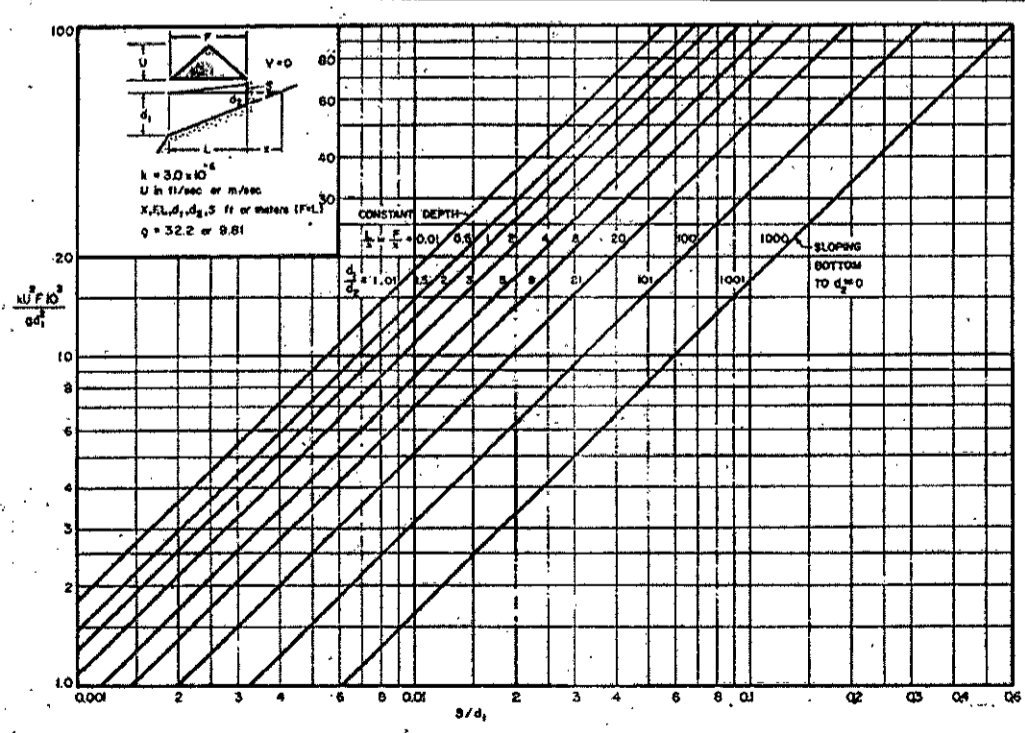
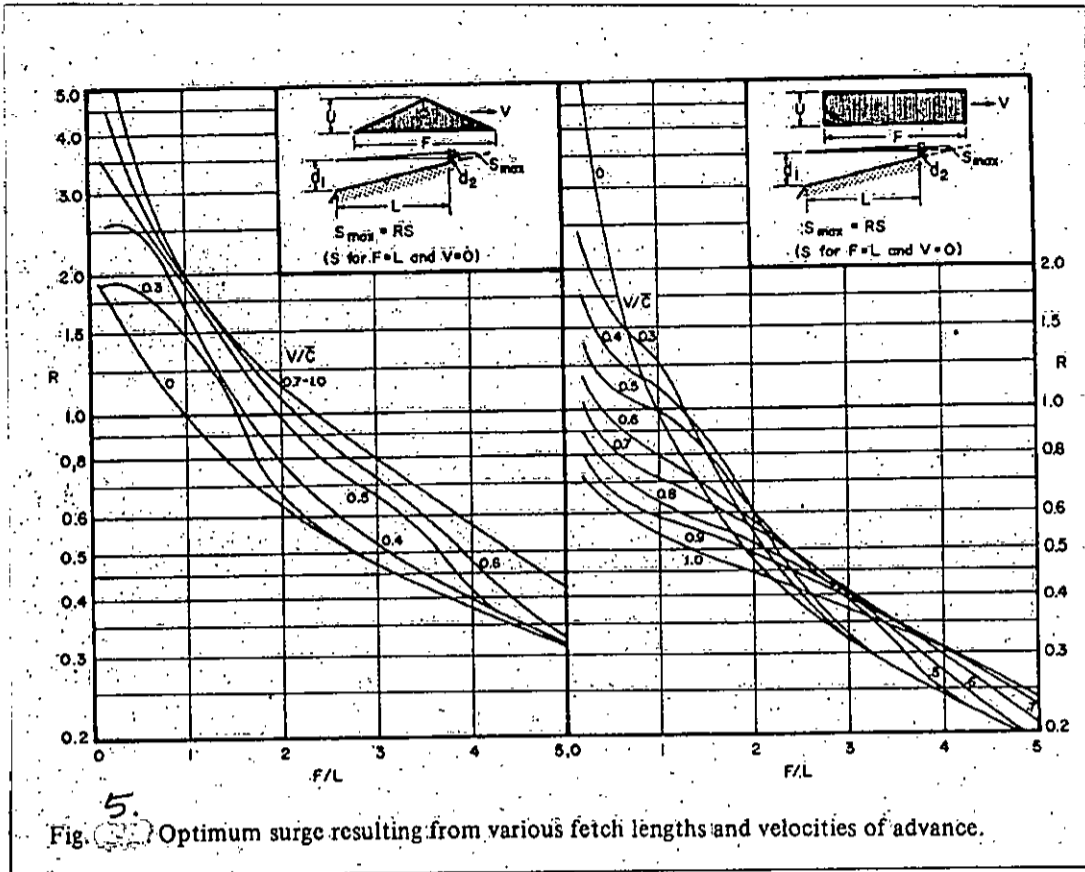
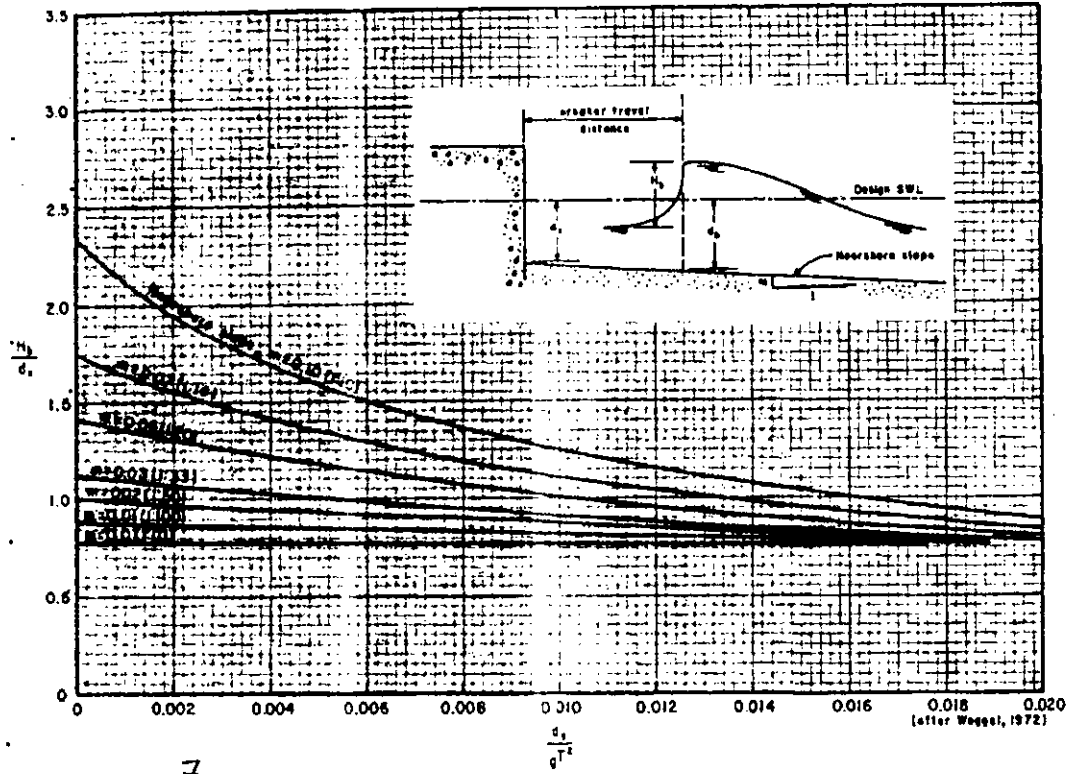

Fig. 4 Surge produced by a static triangular wind field extending across the continental shelf.
Fig. 5 Optimum surge resulting from various fetch lengths and velocities of advance.
Figure 7. Dimensionless design breaker height versus relative depth at structure.
6. (a) Explain how the upwind and downwind storm surge level can be calculated in a lake of uniform depth and equivalent rectangular plan. (5)
- (b) With neat sketch show the typical surface wind structure inside a tropical cyclone. (5)
- (c) Write short notes on (i) Ring of fire, (ii) DART. (5)
- (d) Write down the main features and effects of Indian Ocean Tsunami 2004. (5)
- (e) The fetch in a tropical cyclone has a maximum wind velocity 30 m/s and the triangular wind distribution can be considered to have a 1000 km fetch. The cyclone approaches normally across a continental shelf whose width is 10 NM, edge depth 135 m and inshore depth 15 m. If its average speed of approach is 5 m/s, compute the maximum surge height and determine what length of coast will be affected by large surge. (Necessary figures are attached: Fig. 4 and Fig. 5) (15)
7. (a) State the features of different layers of conventional rubble mound breakwater. Also show its cross section with neat sketch. (5)
- (b) What design factor governs the formation of Tombolo and Salient in detached breakwater? Show the typical beach configurations with detached nearshore breakwater with neat sketches. (5)
- (c) State the reasons and also show with neat sketch the modes of rear side erosion of a sloping front breakwater with capping due to wave overtopping. (5)
- (d) State the criteria/considerations for designing coastal groins in terms of its length, cross section, height, orientation and layout. (5)
- (e) A seawall under wave action is shown in the figure below. Calculate the magnitude of the breaking wave force acting on the wall using Goda's formula. (Necessary Figures and Table are attached: Fig. 6, Fig 7, Table 1) (15)
Design a revetment type shore protection structure with quarry stone armor unit including the filter and toe protection. Also show the design section with neat sketch. Use the attached tables (Table 2, 3, 4) and graph (Fig. 7). Assume the reasonable value of any data if not given.